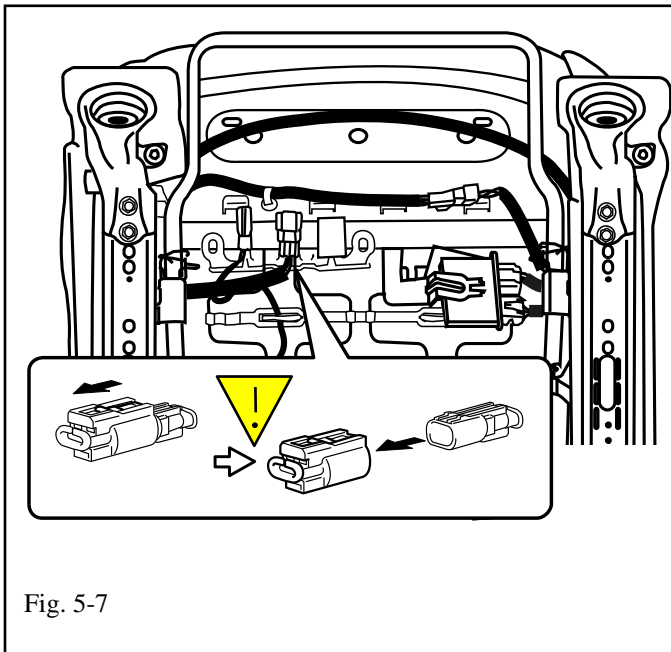

Fig. 5-7
- (2) For Driver Side: (Fig.5-7)